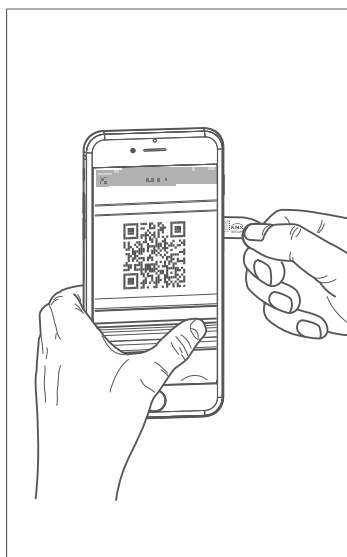
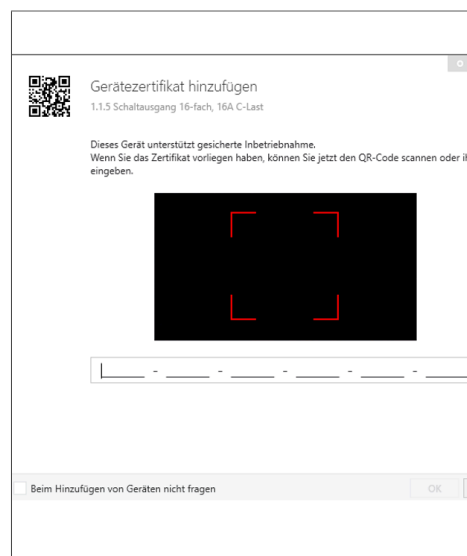

Fig. 15: Scanning the QR code
Fig. 16: Entering the QR code manually
- ① Activate safe commissioning mode in ETS.
- ② Enter the device certificate (QR code) (Bild 16), scan it (Bild 15) or add it to the project in ETS.